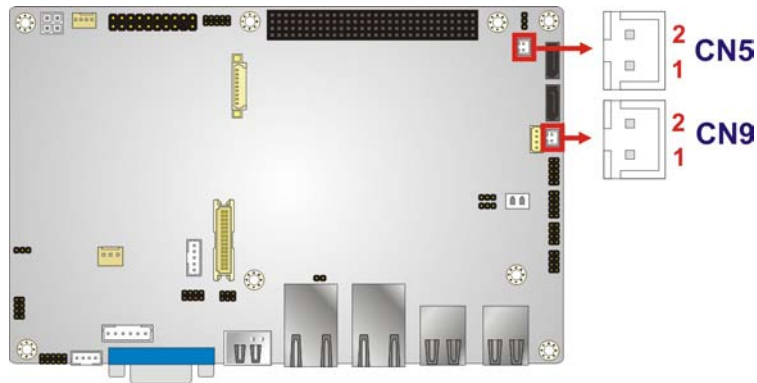

Figure 3-18: SATA Power Connector Locations
- CN Location: See **Figure 3-18**